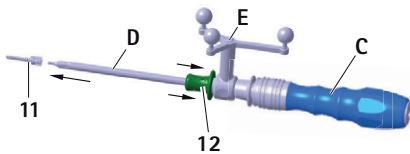

Fig. 9 Pick up the S⁴C screw with S⁴C screwdriver
- ▶ Retract and hold the holding sleeve **12** on the S⁴C screwdriver **D**, see Fig. 9.